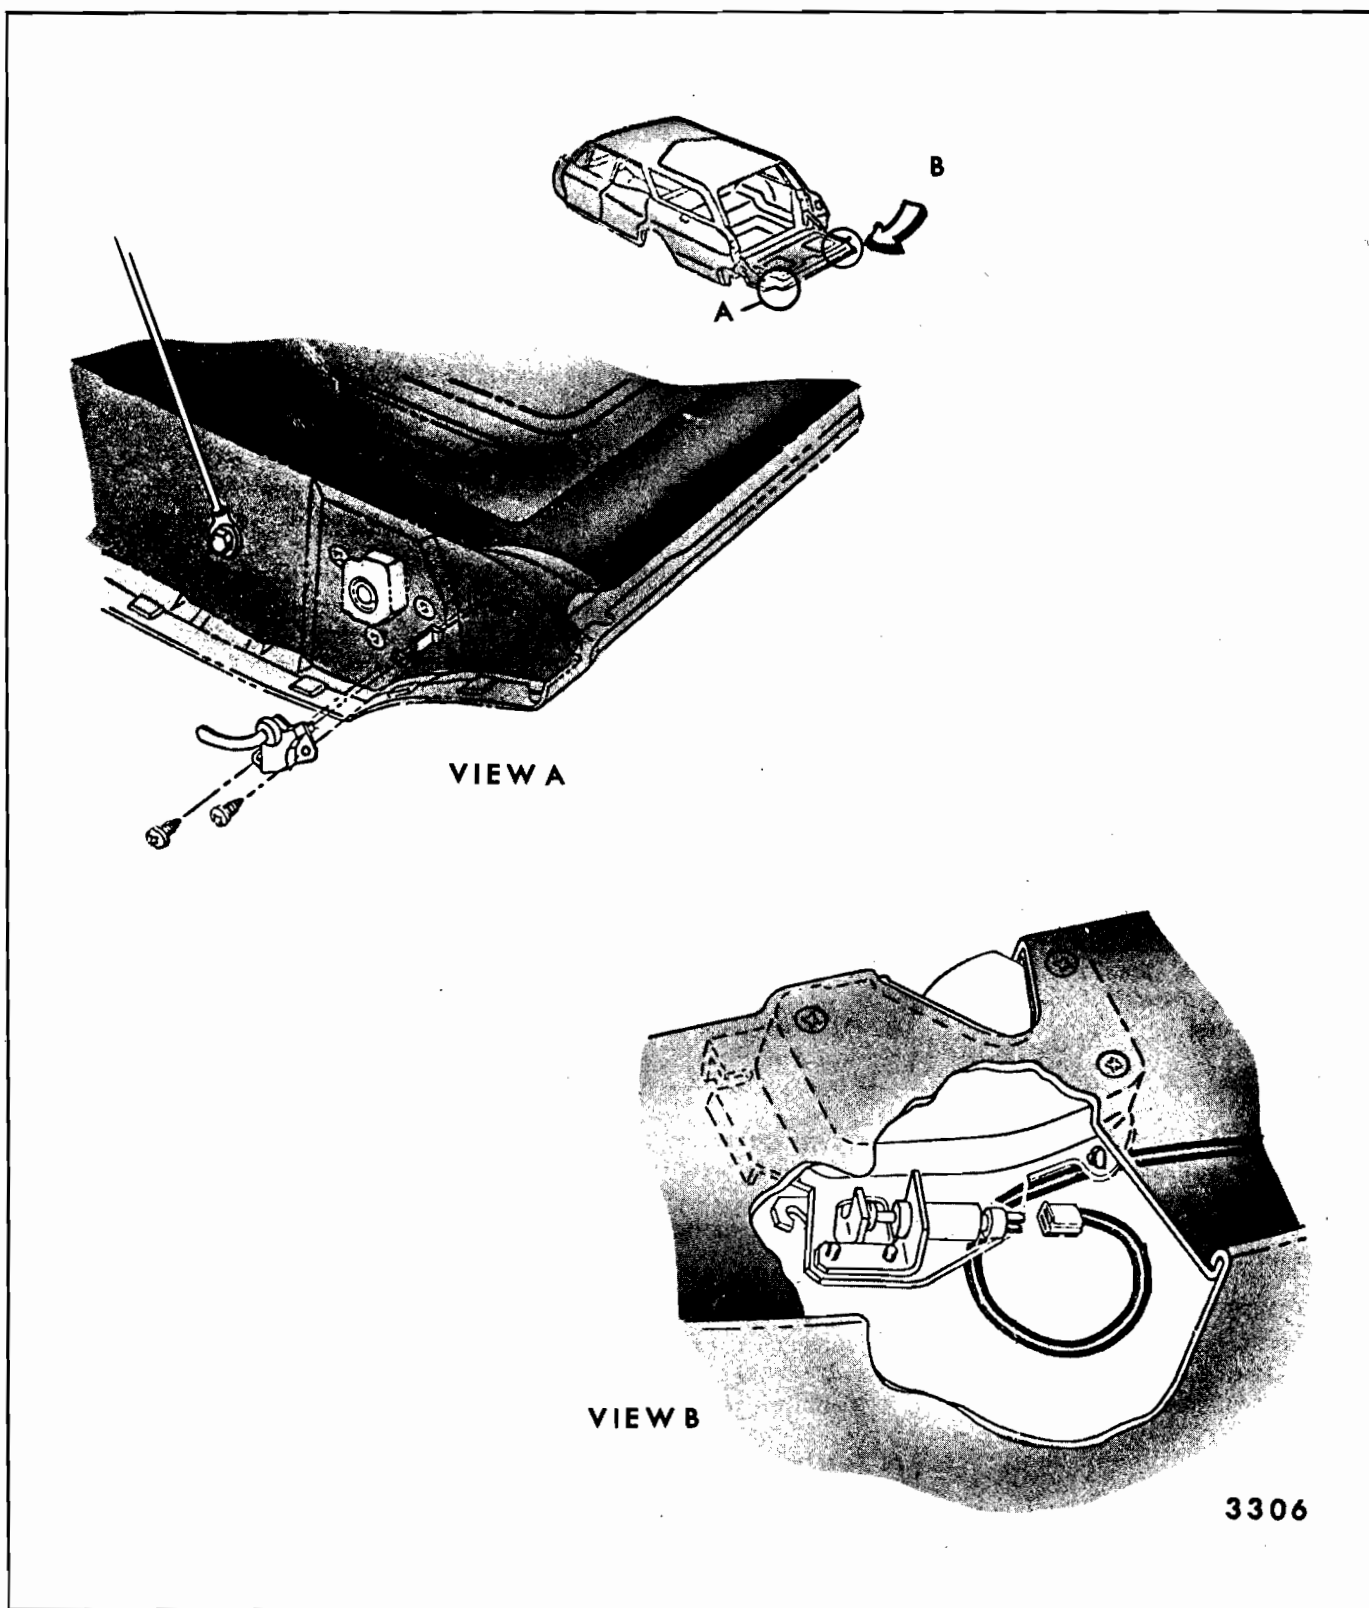

Fig. 16-23—Power Tail Gate Window Safety Switches
- With the single acting tail gate open, depress switch arm to simulate the tail gate being closed. (Refer to View A Fig. 16-23).
- With the dual acting tail gate open as a tail gate, manually trip (View B, Fig. 16-23) upper right and left lock assemblies to lock position to simulate tail gate being closed (Refer to "Tail Gate Section" of Manual).